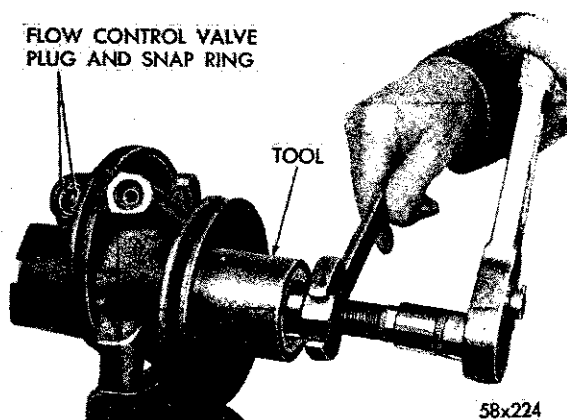

Fig. 4—Removing Pump Pulley (Typical)
(1) Clean the exterior of the pump before disassembly.
(2) Remove the filler cap and drain the reservoir.
(3) Remove the brackets, reservoir screws, gasket and "O" ring.
(4) Using spacer washers between the front bracket and the pump, reinstall the front bracket for use as a holding fixture. Clamp the bracket in a vise (Fig. 4).
(1) Remove the pump and bracket from the vehicle.
(2) Remove the bracket and reservoir from the pump.
(3) Remove the pump pulley (Fig. 4).